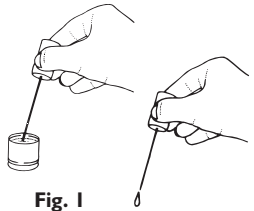

Fig. 1
**IMPORTANT** – Only apply small single drops of light machine oil to the places indicated in red. This is best achieved by making a simple oil “dropper” as illustrated in Fig.1. Insert a straightened paper clip into a cork and use a bottle cap as a container for the oil. A small drop of oil can then be picked up by the dropper and applied in exactly the right place. Immediately wipe off any excess oil, especially from the locomotive and tender bodies. Only lubricate moving parts.